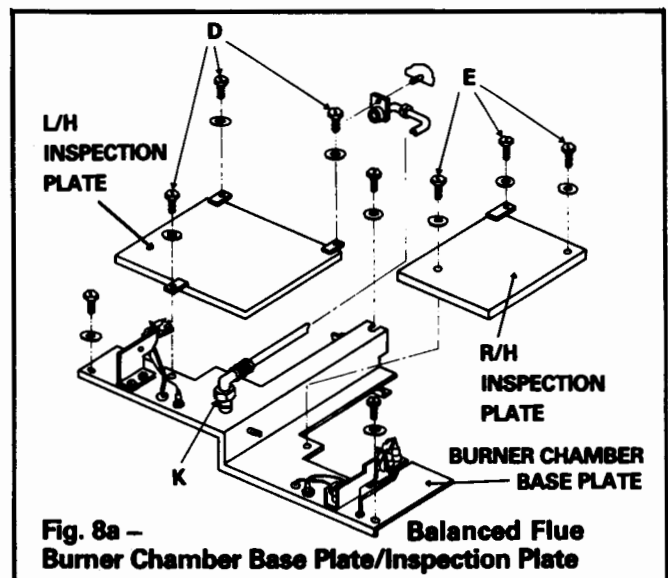

Fig. 8a – Balanced Flue Burner Chamber Base Plate/Inspection Plate
- e. **Balanced Flue Appliance – Fig. 8a**
- (i) Disconnect union fittings **K** (Fig. 8a) and remove gas feed pipe to burner.
- (ii) Remove three screws **D** securing the L.H. inspection cover plate to the combustion chamber base plate. See Fig. 8a.
- (iii) Remove three screws **E** securing the R.H. inspection cover plate to the combustion chamber base plate. See Fig. 8a.
- (iv) Remove three hexagonal screws (two at front, one at rear) securing the combustion chamber base plates. See Fig. 8a.